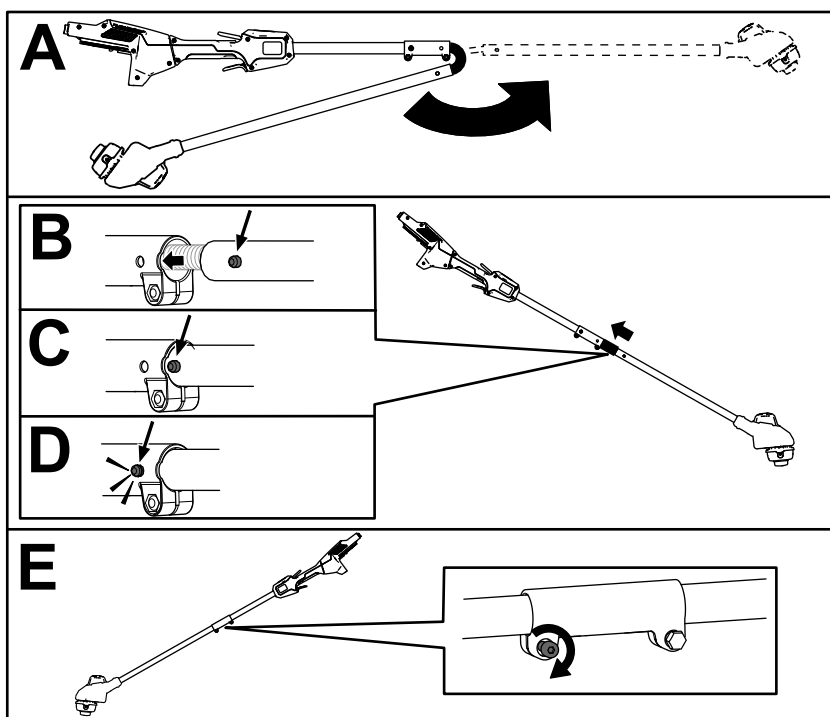

Figure 3
1. Unfold the handle (A of Figure 3).
2. Align the locking button on the lower shaft with the slotted hole on the upper shaft and slide the 2 shafts together (B and C of Figure 3).
Note: The locking button clicks into the slotted hole when the shafts are secured (D of Figure 3).
3. Using the provided Allen wrench, tighten the screw on the shaft connector until it is secure (E of Figure 3).